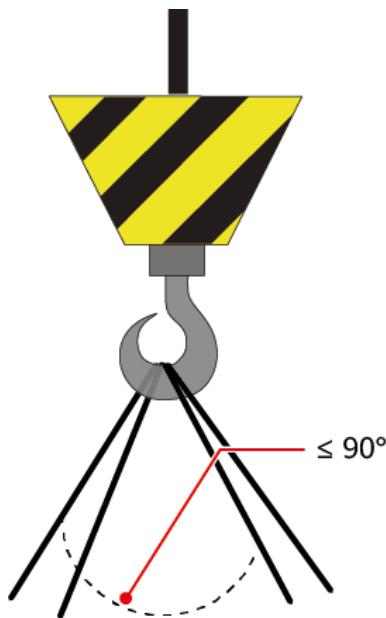

Figure 1-2
6. The included angle between any two slings shall not exceed 90°. Refer to Figure 1-2: